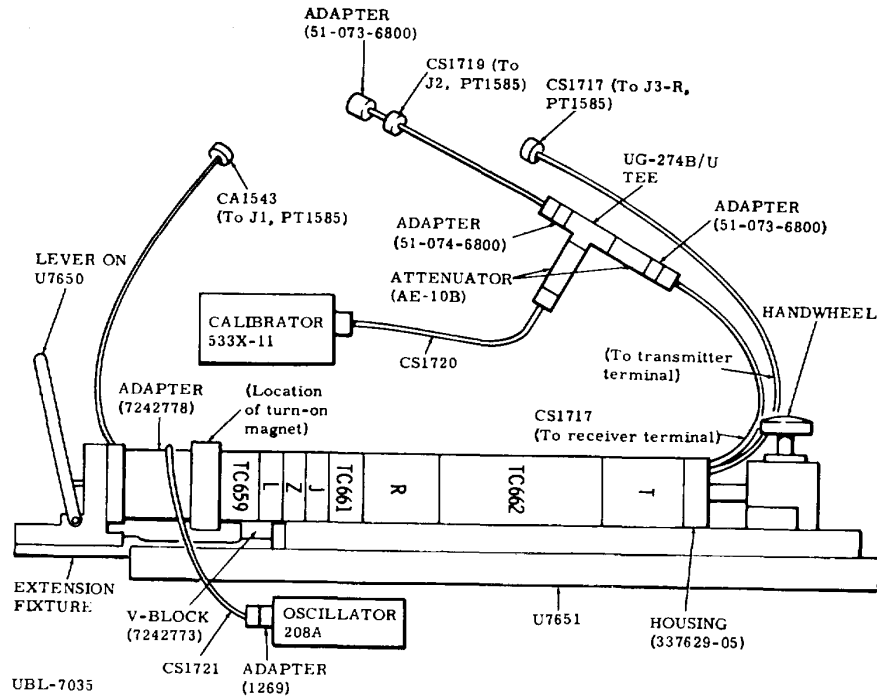
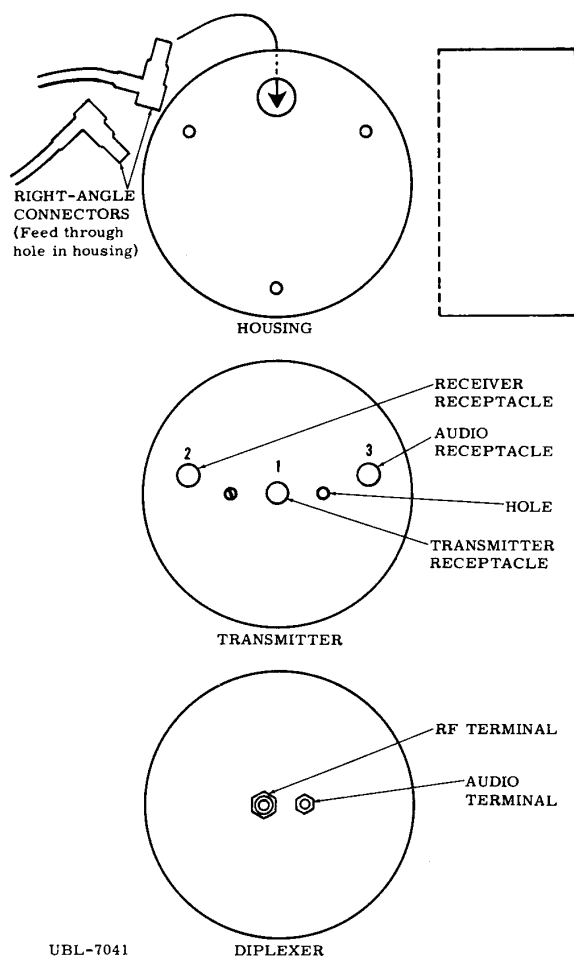
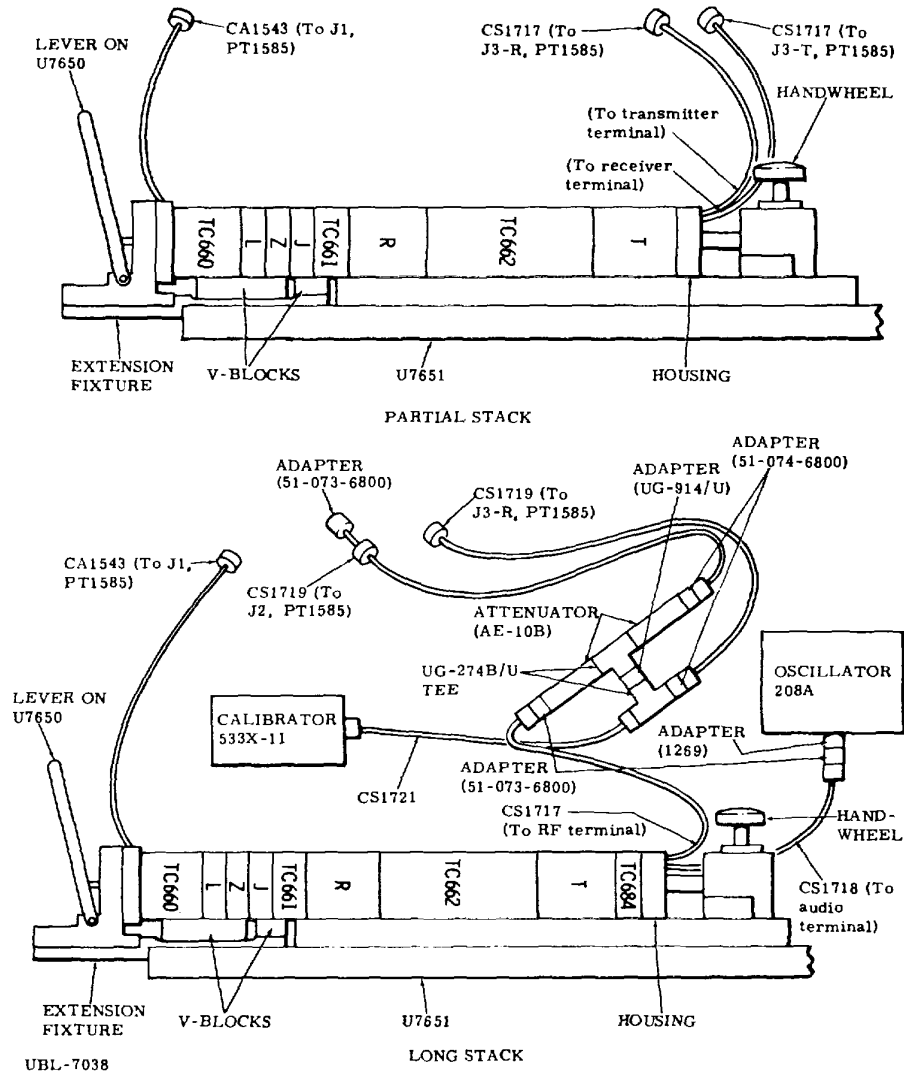

Figure 4-3Q. Test Setup for MA124 CAEDET (H)
Figure 4-3R. Cabling to Transmitter or Diplexer.
Figure 4-3S Test Setup for MA125 CAEDET (G).
**TC659 can be damaged if a low impedance load is connected to the audio terminal (3, in figure 4-3R) of the transmitter. Connect cables only as shown in figure 4-3Q.**
- d. Starting at left end of stack shown in figure 4-3Q, place first module in U7651 tray so that male pins are at left and epoxy-filled groove in TC659 is upward.
- e. Feed right angle connector ends of cables shown in figure 4-3R and 4-3Q through housing, connect cables, and position housing on fixture.
- b. Center Hamlin magnet (H-34) longitudinally over epoxy-filled groove in TC659 module (figure 4-3Q).
- d. Starting at left end of stack shown in figure 4-3S, place first module in tray so that male pins are to left, toward U7650. Similarly place other modules and housing; align marks and keys and keyways.
- e. Feed right angle connector ends of cables as shown in figure 4-3R through housing, connect cables to transmitter and PT1585 (figure 4-3S), and position housing on fixture.
- b. Feed right angle connector ends through hole in housing as shown in figures 4-3R and 4-3S, connect cables to TC684, and position housing on fixture.
- c. Assemble and connect equipment as shown in figure 4-3S for long stack test.